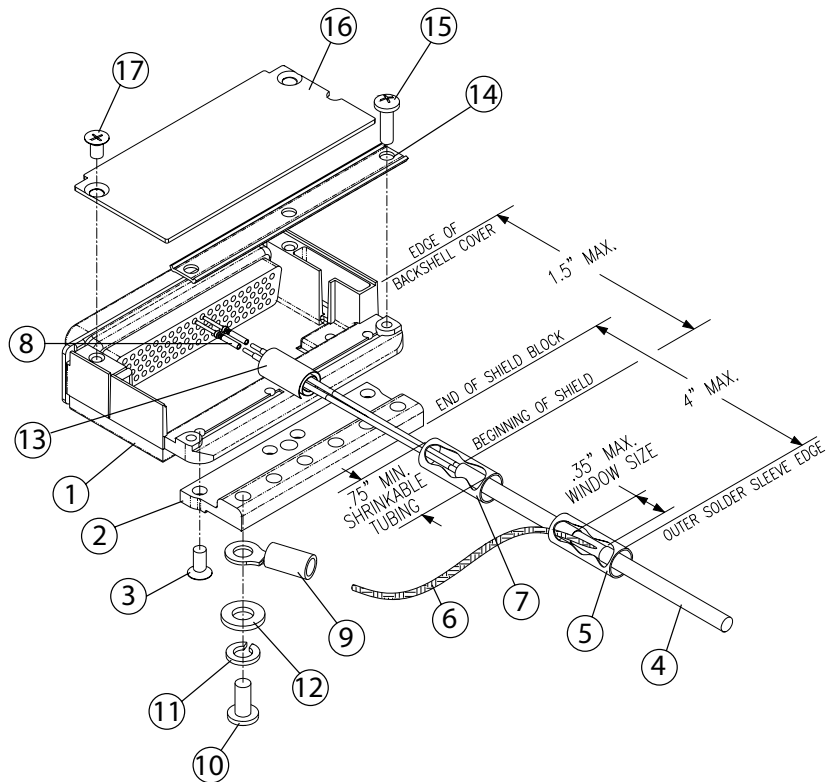
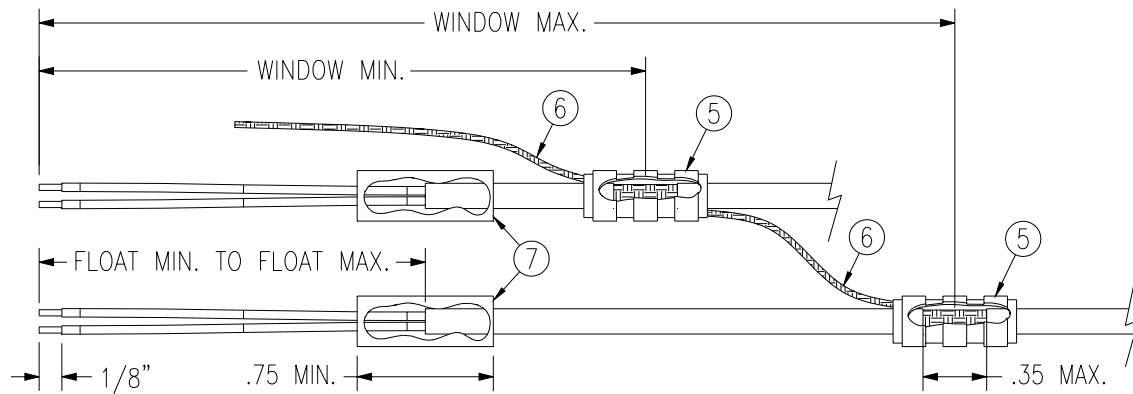

Figure 3-1. Shield Block Install onto Backshell Connector Assembly
Figure 3-3: Daisy Chain Method for Shield Termination
The parts for the connector and backshell assembly, GMA 347 installations, are listed in Table 3-3 and shown in Figure 3-1.
1. Attach the Shield Block(s) (2) to the backshell (1) by inserting the flathead screws (3) through the holes on the Shield Block and threading into the tapped holes on the backshell (1). (See Figure 3-1). The appropriate number of Shield Block kits is included in the GMA 347 connector kit.
5. Strip back 1/8” of insulation and crimp a pin (8) to each of the conductors in the shielded cable.
7. Cut the Flat Braid (6) to a length with the addition of a ring terminal that will reach one of the tapped holes of the Shield Block (2). (See Figure 3-1). An appropriate amount of excess length without looping should be given to the Flat Braid (6) to allow it to move freely with the wire bundle. Note that the maximum distance from the backshell allowed for the window splice should keep the Flat Braid (6) to a worst case length of approximately 4”.
8. Guidelines for terminating the newly cutoff Flat Braid(s) (item 6) with insulated ring terminals (9):
- Each tapped hole on the Shield Block (2) may accommodate only two ring terminals (9).
- It is preferred that only two Flat Braids (6) be terminated per ring terminal. Two Flat Braids per ring terminal will necessitate the use of a Ring terminal, #8, insulated, 14-16 AWG (MS25036-153).
- In rare situations where more braids need to be terminated for this connector than three per ring terminal it is allowable to daisy chain a maximum of two shields together before coming to the ring terminal. (See Figure 3-3).